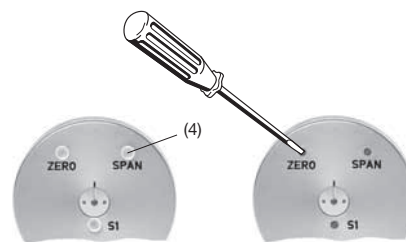

Fig. 7. Adjustments «ZERO», «SPAN» and «S1».
Remove the ZERO/SPAN sealing plug (4) (Fig. 7, left). Place the measured device at its **zero position**, i.e. the position at which the KINAX 3W2 should produce 0 mA (3- or 4-wire connection) resp. 4 mA (2-wire connection) at its output.
Then adjust the “ZERO” potentiometer (Fig. 7, right) using a watchmaker’s screwdriver (2.3 mm diam.) so that the desired output current flows.
A switch is provided on angular transmitters with a measuring range > 150 \sphericalangle for reversing the direction of rotation. It is marked S1 and can be operated through the opening in the rear part of the transmitter (Fig. 7).